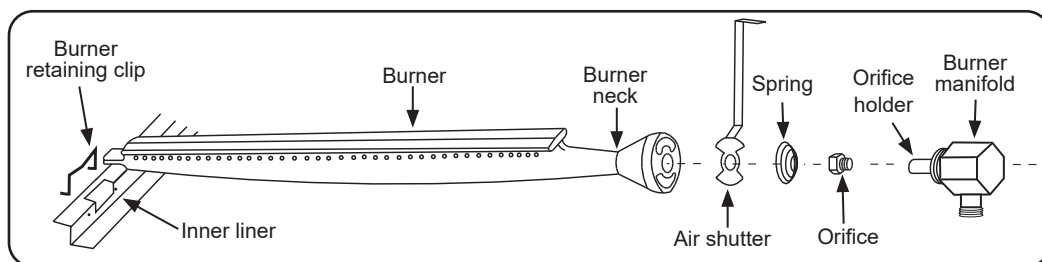

Fig. 38-1 - Burner orifice diagram
5. Install the air shutter spring and the air shutter over the orifice holder fitting in the order and position shown in Fig. 38-1. Carefully place the burner(s) back in position, resting on the back flange of the inner liner so that the brass orifice and orifice holder fittings project well into the burners.